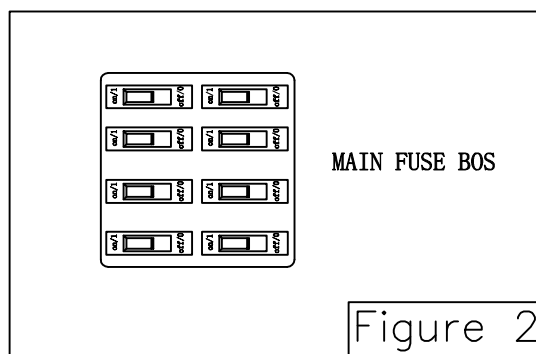

Figure 2
Securely attach and tighten the three "L" tabs of canopy screw cover over the three slots of canopy utilizing the key slot twist-lock feature. (Figure 2)
- Restore electrical power to the outlet box by turning the electricity on at the main fuse box. (Figure 2)